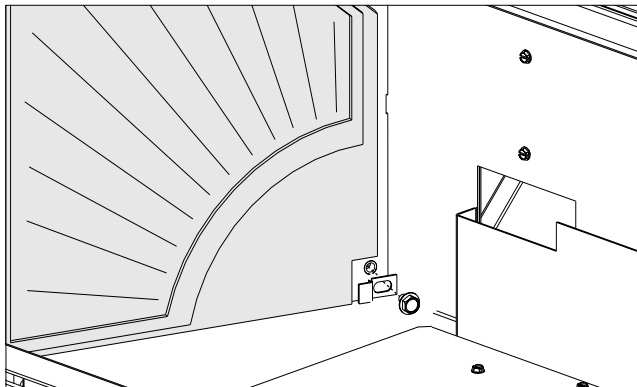

Figure 20. Ornamental cast iron panel removal. **REPLACE BOLT IN THE HOLE AFTER REMOVING BRACKET AND PANEL.**
1. Remove the two cast iron side panels from the firebox. Use a 10 mm socket wrench to remove the retainer brackets located at the rear corner of each panel, as shown at right. The panels will not be reinstalled, however **YOU MUST REPLACE THE M6 BOLTS IN THOSE LOCATIONS.** Fig. 20